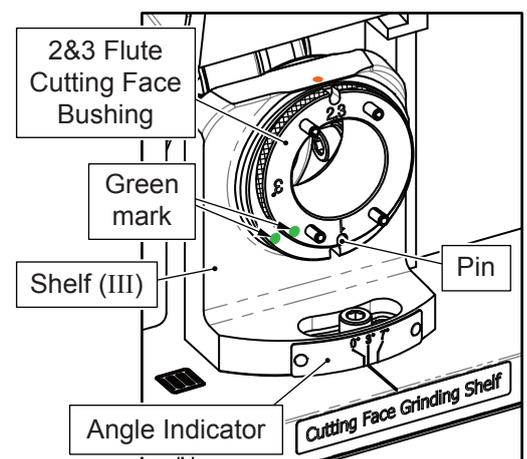

Fig. 5-17
3) Cutting Face Grinding Shelf (III) (Fig. 5-17)
- ① Adjust the Shelf (III) to 3° .
- ② Insert 2&3 Flute Cutting Face Bushing into the Shelf (III), align No.1 of the bushing to the pin on the shelf, then insert it to the end.